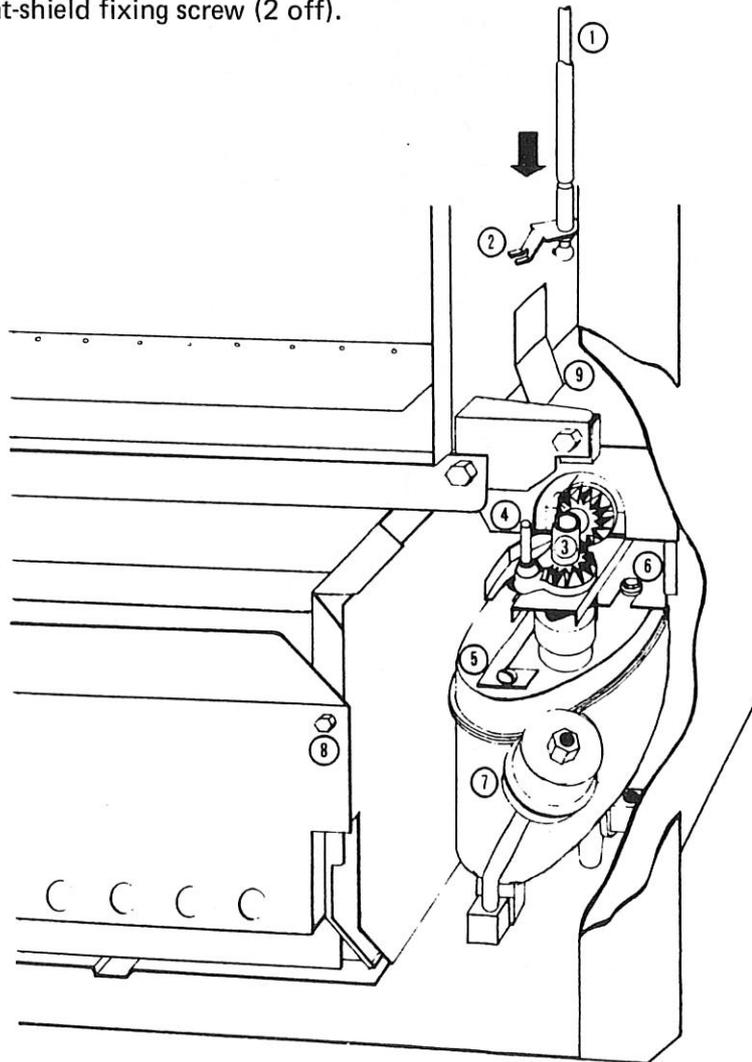

FIG. 5
6. Pull valve forward until brass discs disengage from slots, lower until nylon tab is free of valve control knob and remove valve from heater. [Fig. 5]